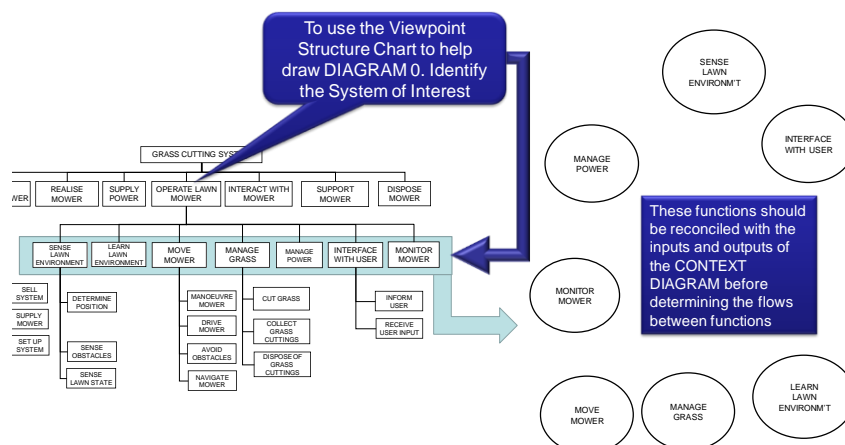

Figure 5: Using The Viewpoint Structure Chart to identify a suitable set of Diagram 0 functions
2. If a Viewpoint Analysis has been undertaken, the Viewpoint Structure Chart is often a good starting point for constructing DIAGRAM 0 – BUT BEWARE while all the functions identified on a Viewpoint Structure Chart should appear on the Functional Flow Diagrams., the grouping on the Viewpoint Structure Chart may not be the best aggregations for developing a simple set of FFDs. This idea of using the Viewpoint Analysis is shown in Figure 5.